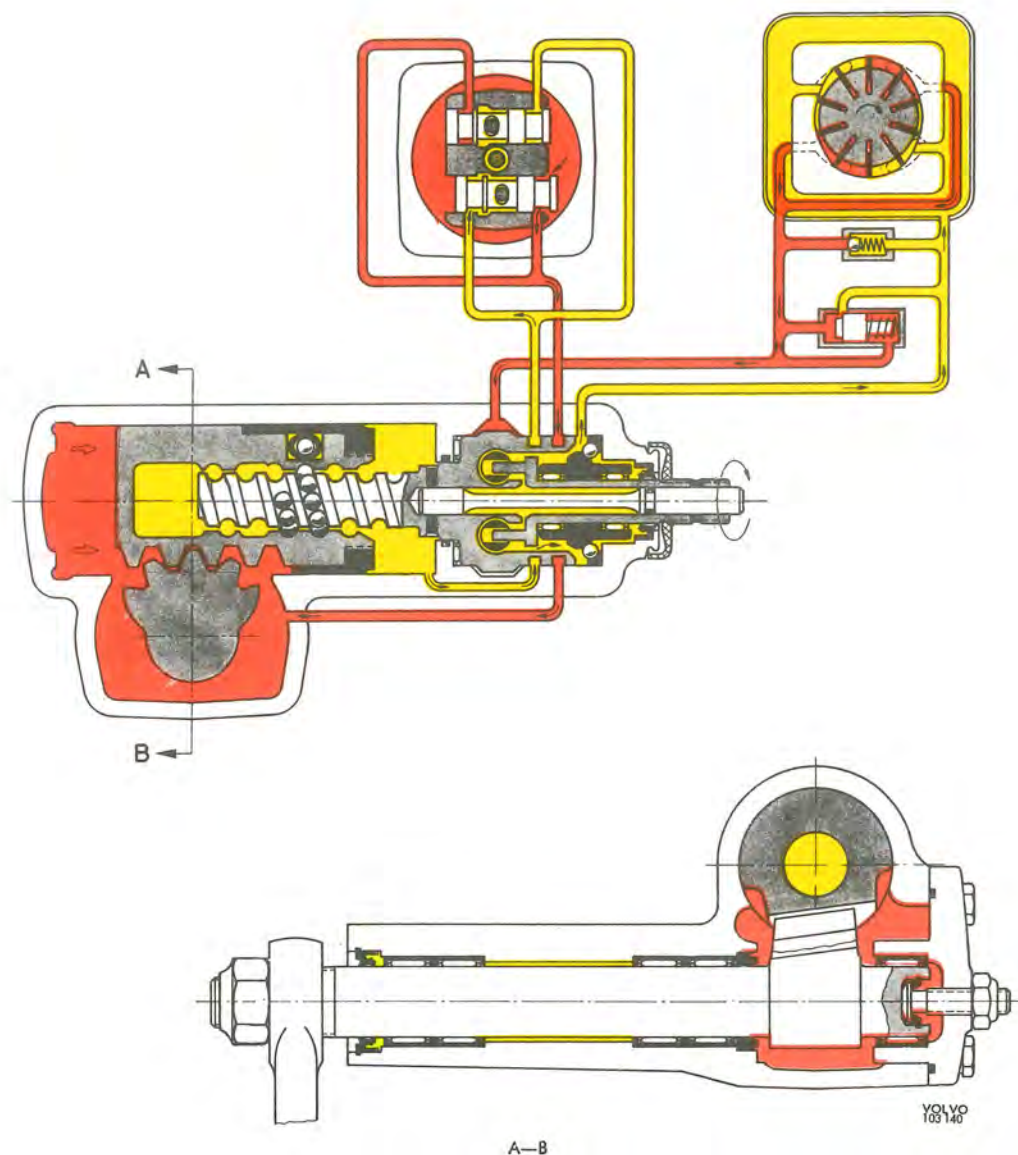

Fig. 6-41. Function, right-hand turn
As soon as the front wheels have been turned to the desired position, and the forces acting on the steering wheel become less, the control valves return to the neutral position under the influence of the torsion rod. When the steering wheel is turned to the right (see Fig. 6-41), the piston (2) is screwed to the right in the figure. The control valve (10) is moved to the right and permits oil under pressure to pass to the annular groove (18) of the valve housing and from there to the left side of the cylinder. Oil under pressure also flows to the return groove (7) which, however, is closed so that the oil pressure on the left side of the operating piston (2) rises and facilitates turning of the lever shaft. Oil at the right side of the cylinder is pressed by the piston via the annular groove (19)
Turning the steering wheel to the right (see Fig. 6-41) will screw the piston (2) to the right on the figure. The control valve (10) is displaced to the right and permits oil under pressure to pass to the annular groove (18) of the valve housing and from there on to the left-hand side of the cylinder. Oil under pressure also flows to the return groove (7) which, however, is closed so that oil pressure on the left-hand side of the operating piston (2) rises and facilitates the turning of the lever shaft. Oil at the right-hand section of the cylinder is pressed by the piston via the annular groove (19) through the return groove (6) of the control valve (10) back to the oil container (13).
The space in the intermediate piece is oval, see Fig. 6-41. This permits the area between the rotor, the wall of the intermediate piece and two of the vanes to